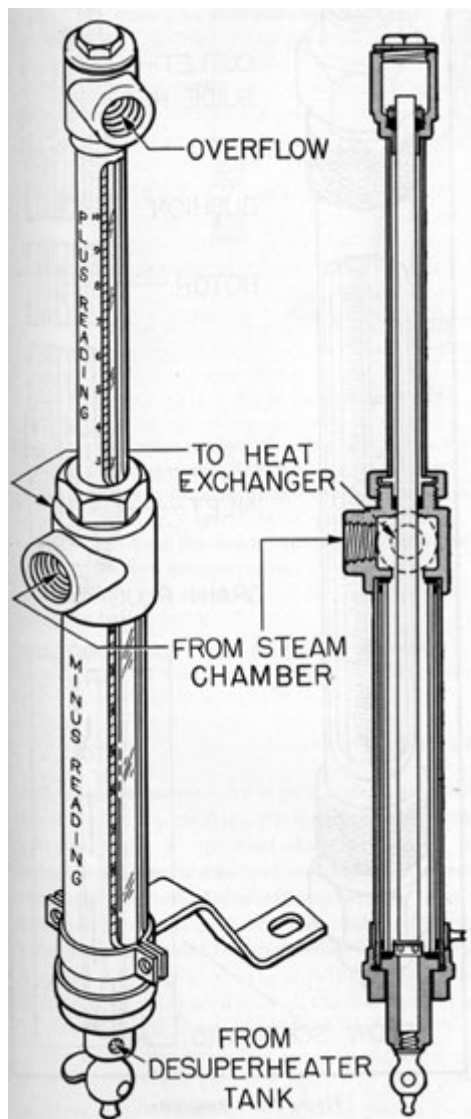

Figure 7-1. Manometer.
**7C1. Manometer.** The manometer (Figure 7-1) is used on the units which have not been converted for operation while snorkeling. It consists essentially of a brass framework holding two glass tubes, one tube within the other. The inner tube is smaller in diameter and approximately twice the length of the outer tube. The outer and larger tube is closed at the bottom and at the top it has two openings, one of which is connected to the drain from the vapor separator, the other being the manometer drain to the heat exchanger. The smaller or inner tube supported by the framework,